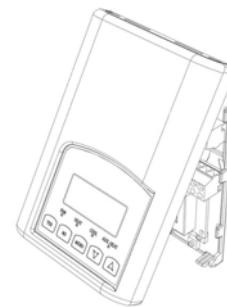

Fig.3
- Remove Assembly and remove wiring terminals from sticker. **(Fig. 3)**